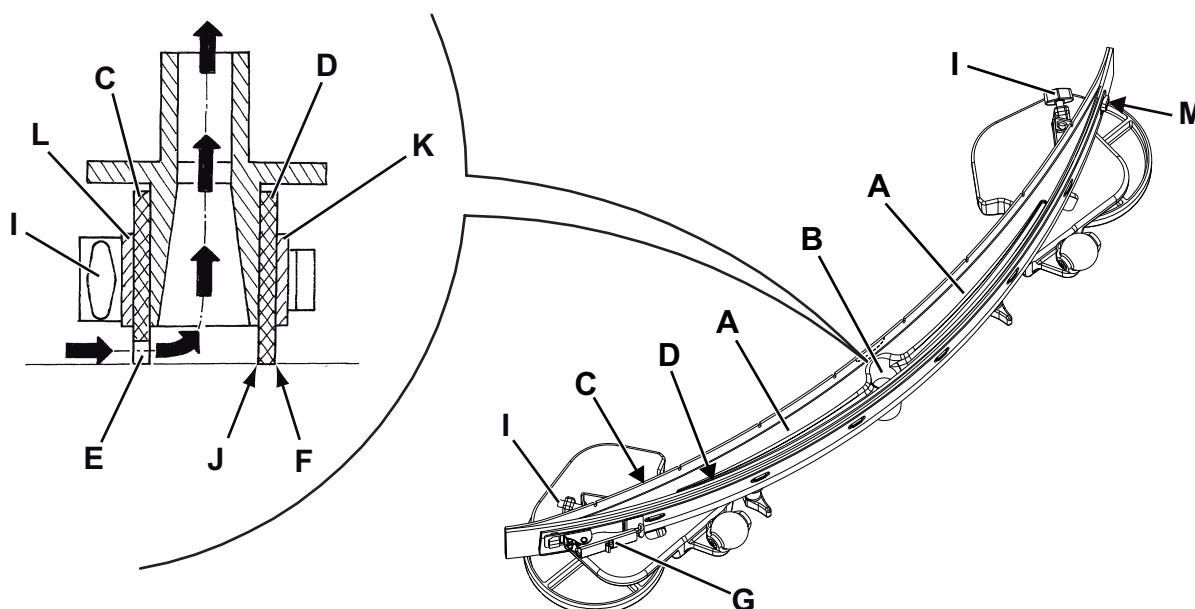

Figure 6
2. Insert the ignition key (58) and turn it to "I".
3. Lower the squeegee (30) by pressing the push-button (63).
4. Turn the ignition key (58) to "0".
5. Disconnect the vacuum hose (31) from the squeegee.
6. Loosen the handwheels (34) and remove the squeegee (30).
7. Wash and clean the squeegee. In particular, clean the compartments (A, Fig. 6) and the vacuum hole (B). Check that the front blade (C) and the rear blade (D) are integral and free from cuts and lacerations; if necessary replace them.
1. Clean the squeegee (Fig. 6) as shown in the previous paragraph.
2. Check that the edge (E) of the front blade (C) and the edge (F) of the rear blade (D) lay down on the same level, along their length; otherwise adjust their height according to the following procedure:
- Remove the tie rod (G), disengage the fastener (M) and adjust the rear blade (D); then engage the fastener and install the tie rod.
- Loosen the handwheels (I) and adjust the front blade (C); then tighten the handwheels.
3. Check the front blade (C) and rear blade (D) for integrity, cuts and tears; if necessary replace them as shown below. Check that the front corner (J) of the rear blade is not worn; otherwise, overturn the blade to replace the worn corner with an integral one. If the other corners are worn too, replace the blade according to the following procedure:
- Remove the tie rod (G), disengage the fastener (M) and remove the retaining strip (K), then replace/overturn the rear blade (D).
- Unscrew the handwheels (I) and remove the retaining strip (L), then replace the front blade (C).
4. Connect the vacuum hose (31) to the squeegee.